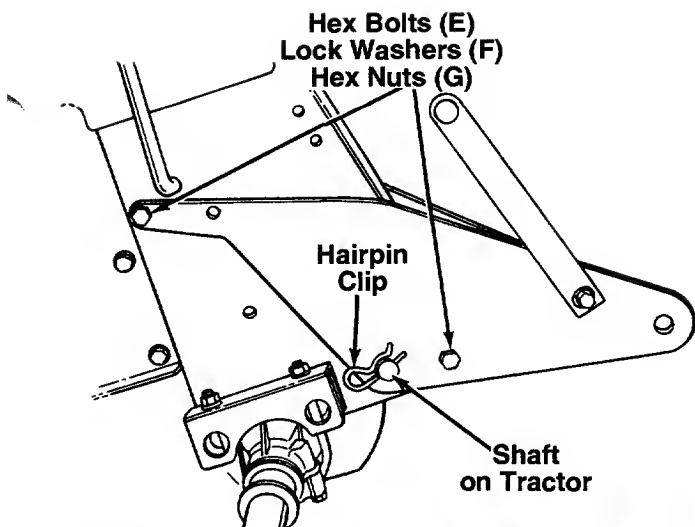
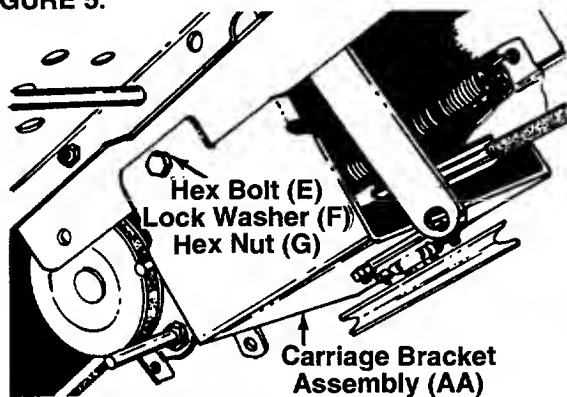

FIGURE 5.
FIGURE 6.
4. Place the support pivot bracket (with idler bracket and support arm attached) in position on the rear left hand side of tractor. See figure 5. Place large hole in pivot bracket over shaft on tractor. Secure with one hairpin clip removed in step 3.
6. Align the holes in the support pivot bracket with the holes in the tractor frame. Secure the support pivot bracket to the tractor frame with hex bolts (E), lock washers (F) and hex nuts (G) as shown in figure 5.
9. Secure end of idler bracket support arm assembly on the right side of tractor with one flat washer (D) and hairpin clip (J).
10. Place carriage bracket assembly (AA) in position beneath the running board support rod on the tractor so belt will attach to engine pulley. Secure each side of carriage bracket to frame with hex bolts (E), lock washers (F) and hex nuts (G). Tighten securely. See figure 6.